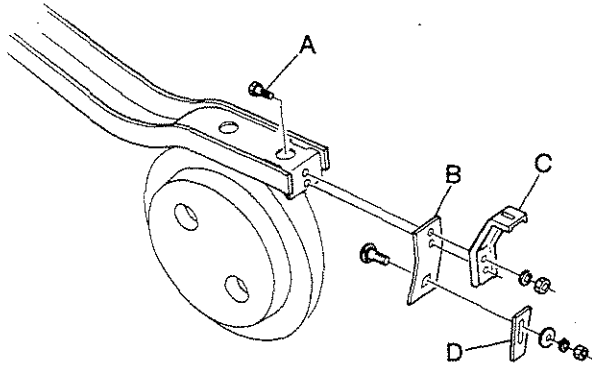

Figure 3
1. Remove 5/16" x 1 1/4" long hex bolts (A), washers and hex nuts which hold scraper mounts (B) and press wheel spring mounting channel (C) in position (see figure 3).
2. Remove inside scraper (D) from scraper mount (B). Scraper mount (B) is no longer needed.